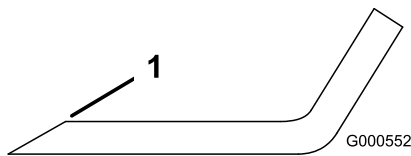

Figure 56
- Use a file to sharpen the cutting edge at both ends of the blade (Figure 56).
**Note:** If the blade is not balanced, file some metal off the end of the sail area only (Figure 56).